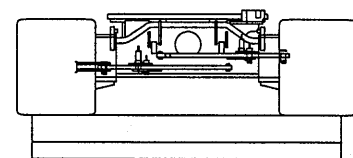

Fig. 11-47
- (8) Retract jacks, and lower the crawlers onto the trailer. (Fig. 11-47)
- (9) Fix the machine to the trailer, and remove the wooden blocks under the trailer.